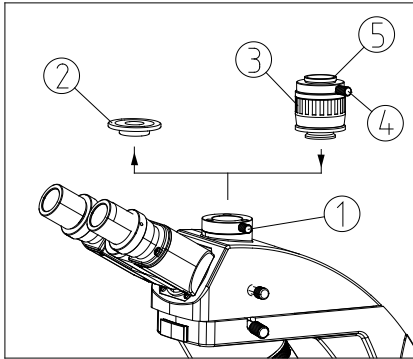

Figure 25
1. Loosen the lock-screw① on the trinocular head and remove the dust-cap② from the photo port. (Figure 25)
2. Remove the dust-caps from the camera adapter③. Insert the camera adapter③ into the trinocular port. Tighten thumbscrew①
4. Pull out the light path selecting lever to direct light path to the camera. If the image is not in focus, rotate the focus adjustment⑤ until it is in focus